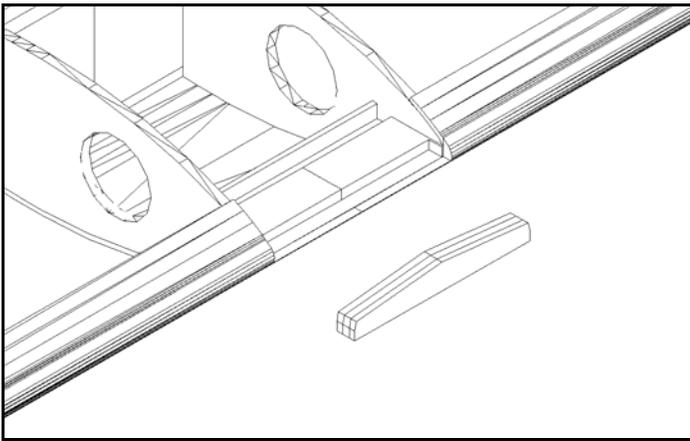

Figure 17
17. Remove parts P5 from plywood sheet, and sand break-aways smooth. Flip wing over and carve away excess material from bottom of the leading edge between center ribs. Install Part P5 front wing saddle.. (Fig. 17)